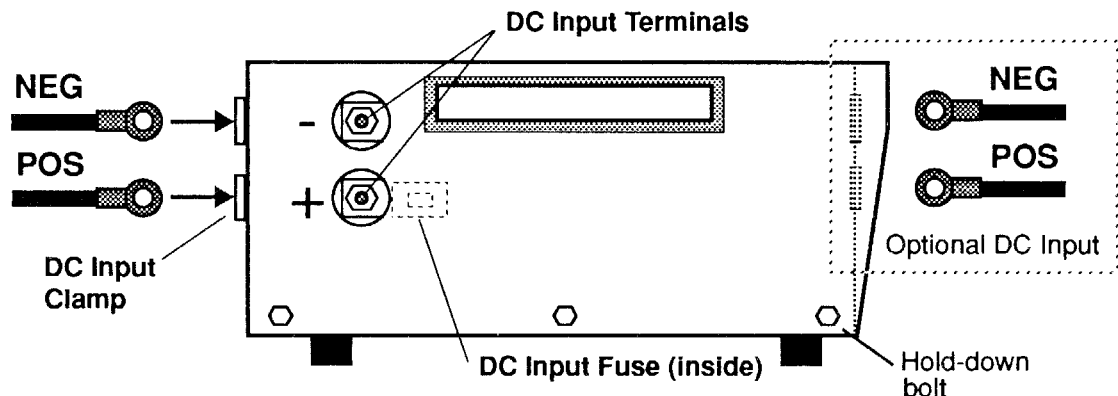
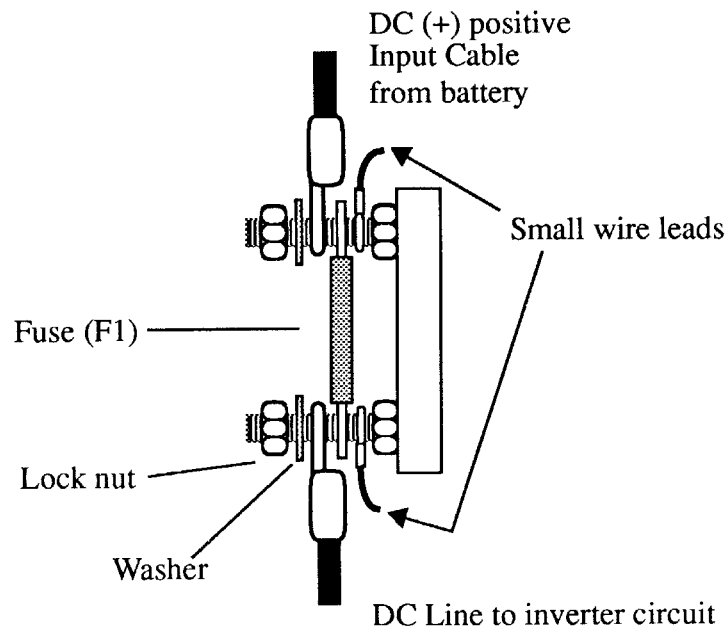

Figure 2.5 - Right Side Panel View, DC Input Terminals
Figure 3.1 - DC Input Fuse Replacement
3. To connect the DC input cables to the inverter, refer to Fig. 2.5 and the steps below.
5. Locate fuse near (+) positive DC input terminal (see Fig. 2.5). Remove blown fuse by loosening the lock nuts and sliding the fuse link off the threaded studs (see Fig. 3.1).